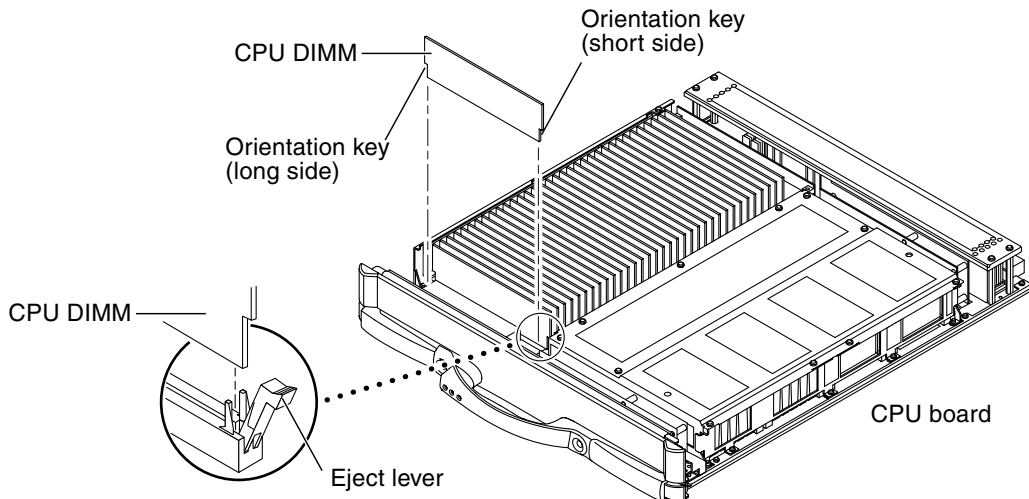

FIGURE 8-4 CPU DIMM Removal
4. Eject the faulty CPU DIMM by pressing down on the ejection levers on both sides of the DIMM connector as shown in FIGURE 8-4.
4. Align the short-side and the long-side orientation key of the CPU DIMM with the short side and long side orientation position of the DIMM connector (FIGURE 8-4).